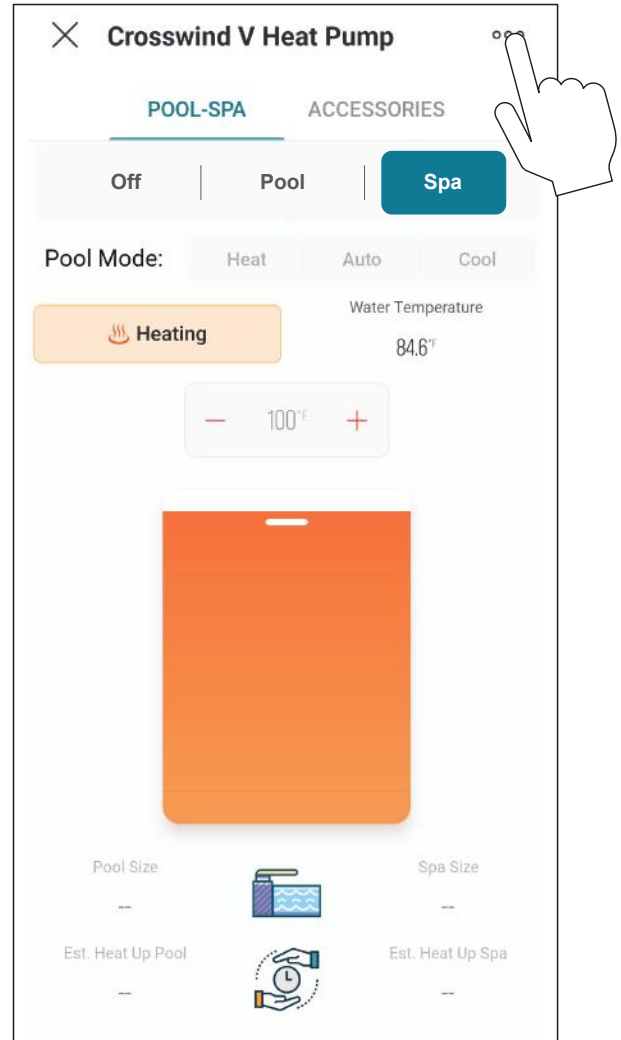

Figure 95. Open Unit Settings
2. Press the 3-dots button on top-right corner to open unit settings. See Figure 95.